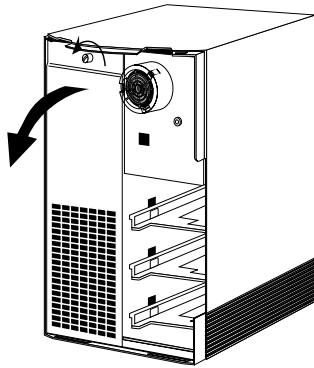

Figure 6-15 Opening the Front Metal Panel
- Loosen the panel by unscrewing the thumbscrew, as shown in Figure 6-15.